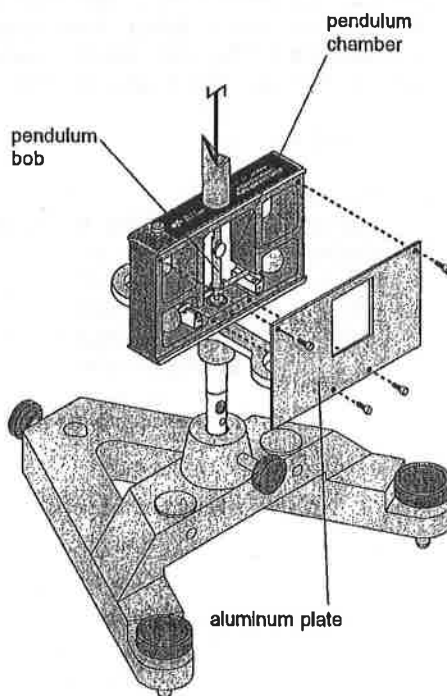

Figure 3
3. Remove the front plate by removing the thumbscrews (Figure 3), and carefully remove the packing foam from the pendulum chamber.